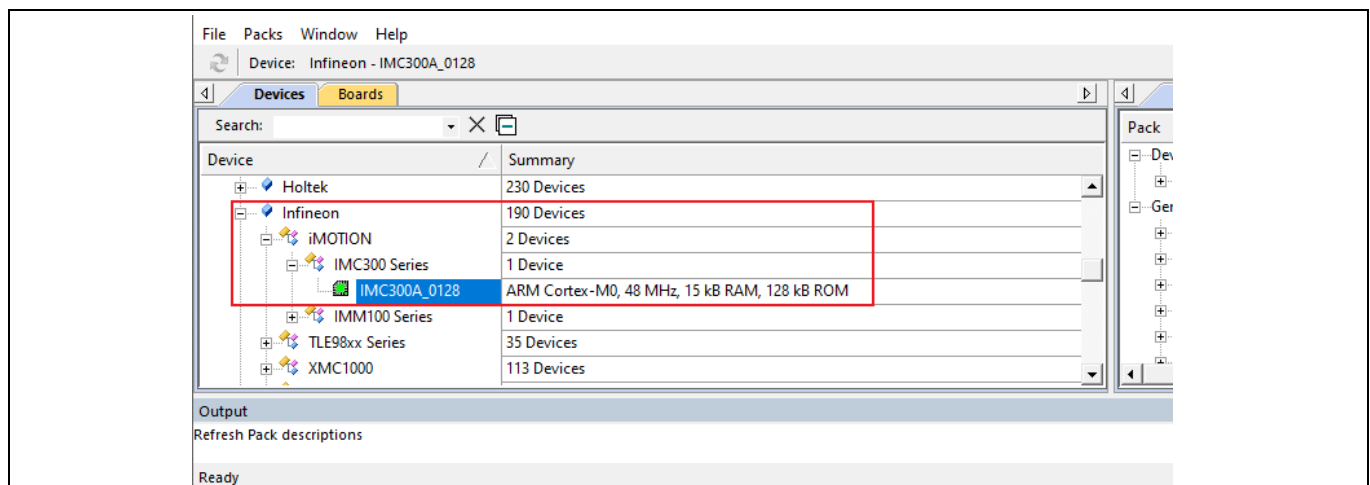

Figure 5 Keil µVision® IDE Pack Installer Window
- 5) To confirm IMC300A DFP has been installed look under “All Devices” → “Infineon” → “iMOTION” and one should see the IMC300 Series as shown in Figure 5.